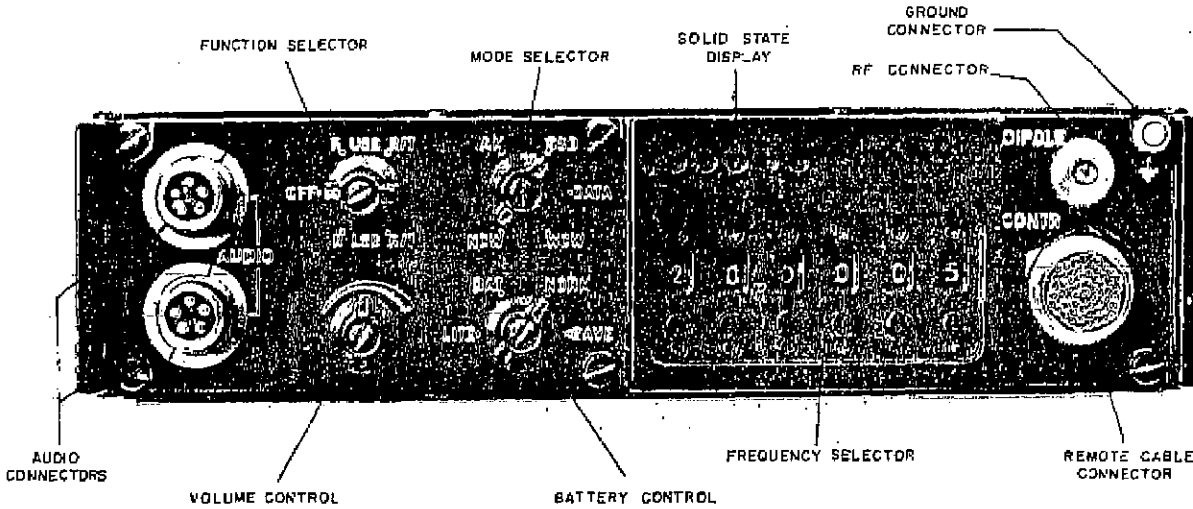

Figure 2-1. Receiver-Transmitter front control panel
This section describes operator's controls, test, status and alarm indicators and the connectors on Radio Set PRC-174. All items listed here are located on the front panel of Receiver-Transmitter RT-936/PRC-174, except the whip antenna connector, which is located on the right sidewall (when facing the front panel), and the battery connector, which is located on the rear panel (Figure 1-1). The front panel is shown in Figure 2-1. The solid state display (SSD) consists of five indicator lamps. Table 2-2 describes the display readings.
- 1) Make sure that the receiver-transmitter is OFF (function selector, Figure 2-1).
connectors (Figure 2-1).
- attach one end of the wire to the ground connection (Figure 2-1).
'Note: **All visual indications** are given on the Solid State Display (SSD, Figure 2-1); **audible** indications are heard in the headset/earphones.